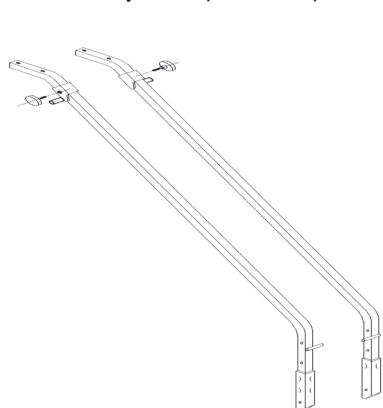

Figure 19
STEP 4: Install the shooting rail adjusters on the uprights as shown in Figure 19 making certain the foot rest stop pegs on the lower end of the uprights are facing in as shown in Figure 19.